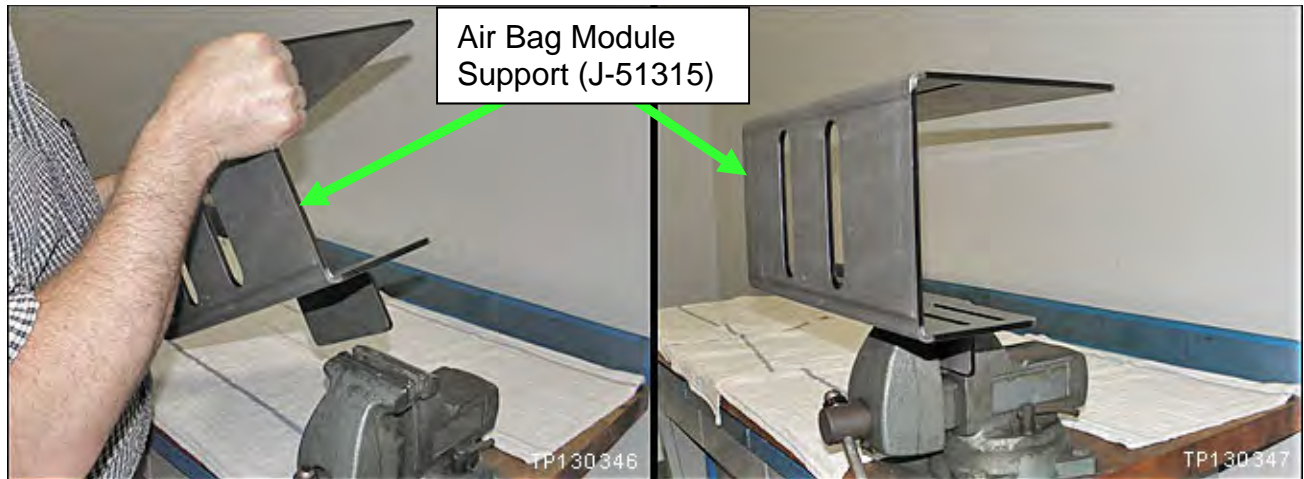

Figure 24
22. Securely mount the Air Bag Module Support in a vise (Figure 24).